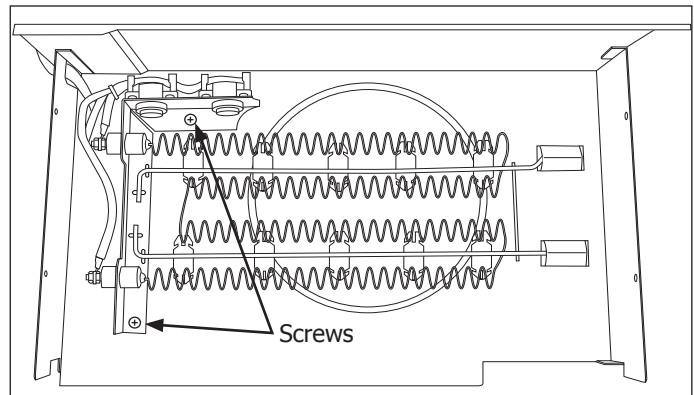

Figure 4-43.
8. Lay the heater and front scroll cover on a flat surface and extract the two screws securing the heater assembly to the front scroll cover. (See Figure 4-43)